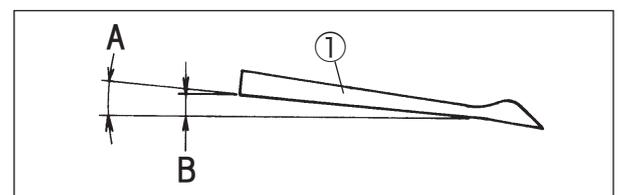

Fig. 6-21
Make adjustment by loosening the screw ② to make the height difference between the rear and the tip of the lower looper to value B in Table 12. (Fig. 6-21)